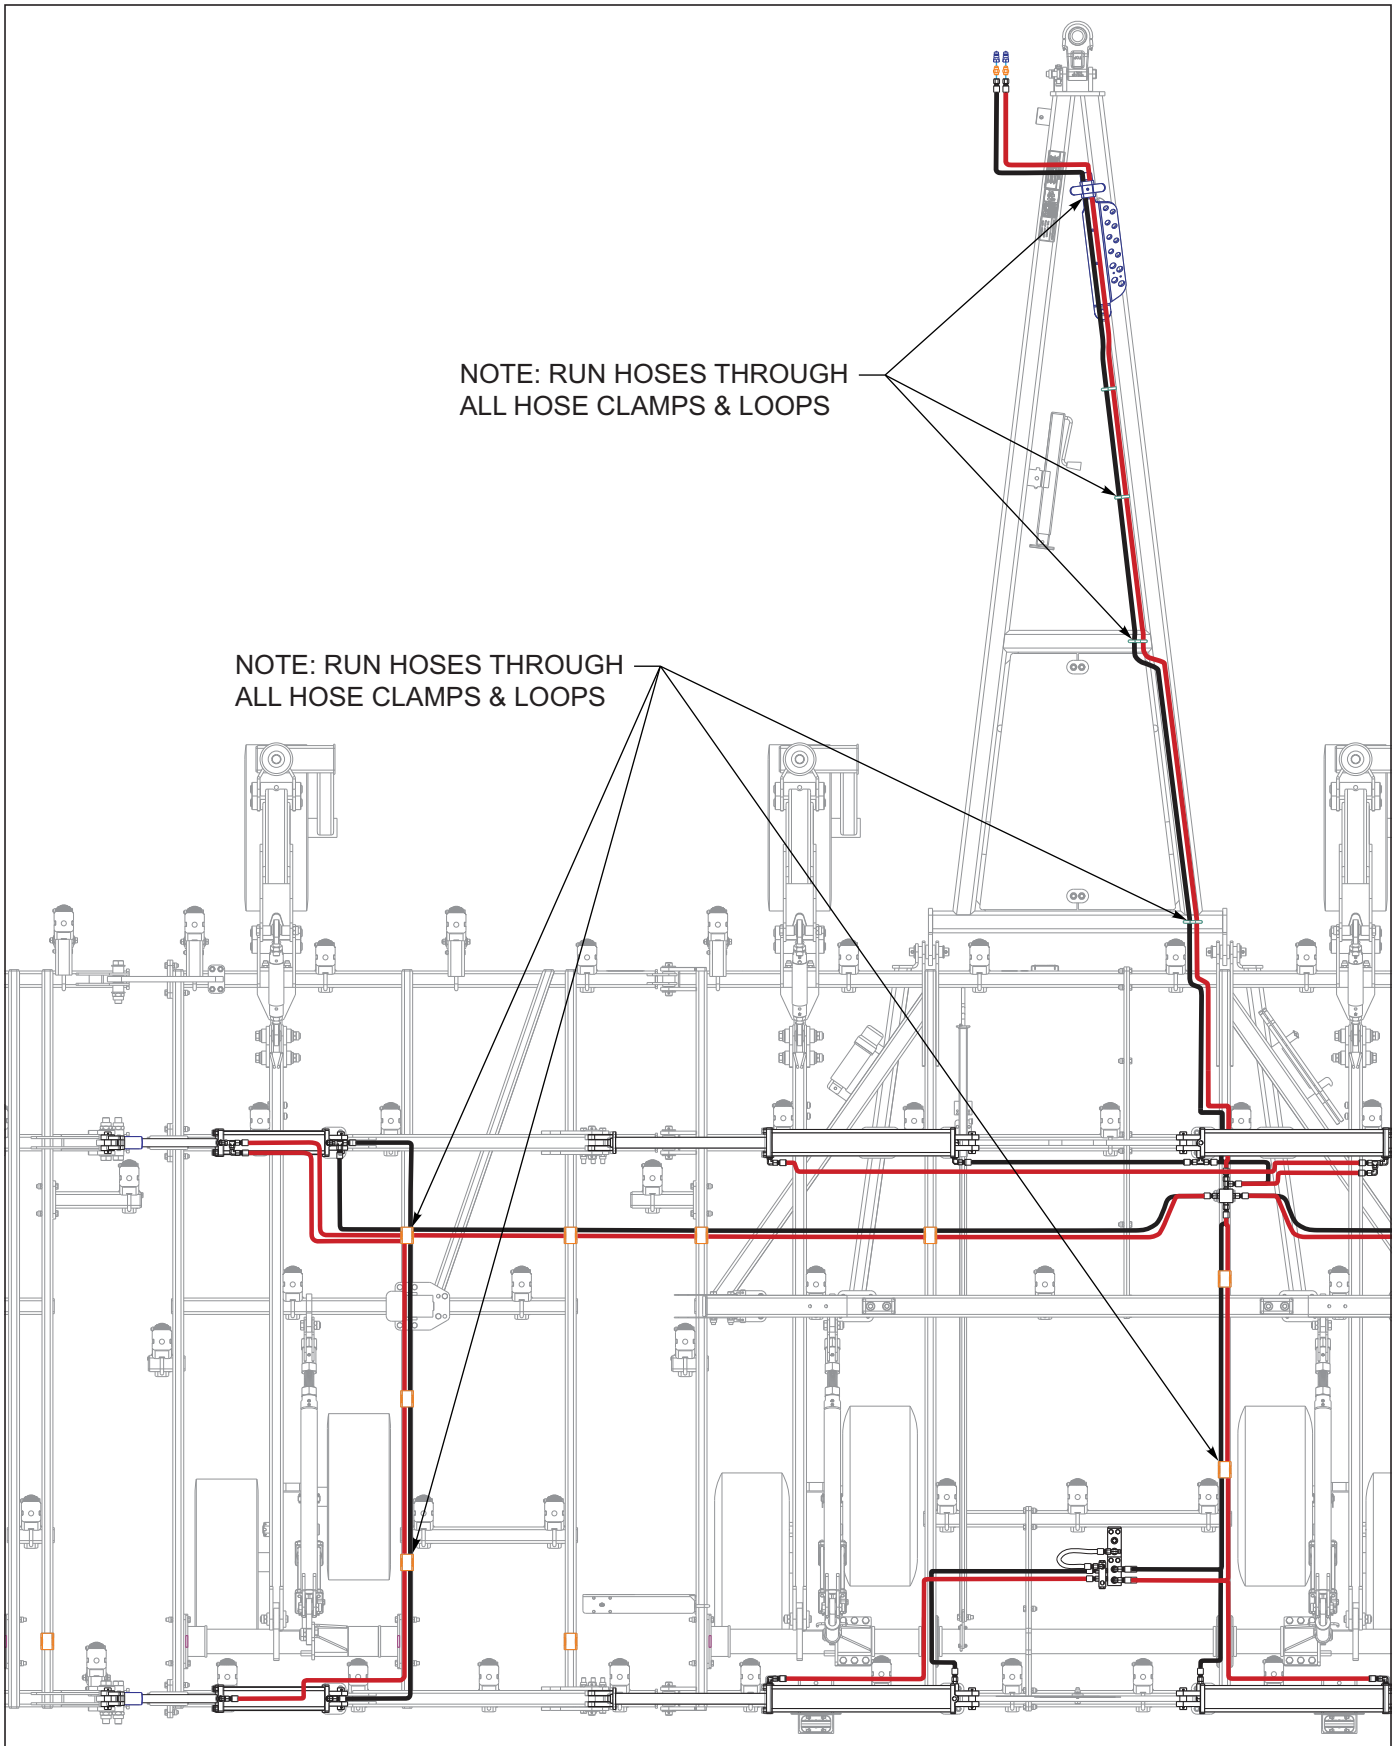
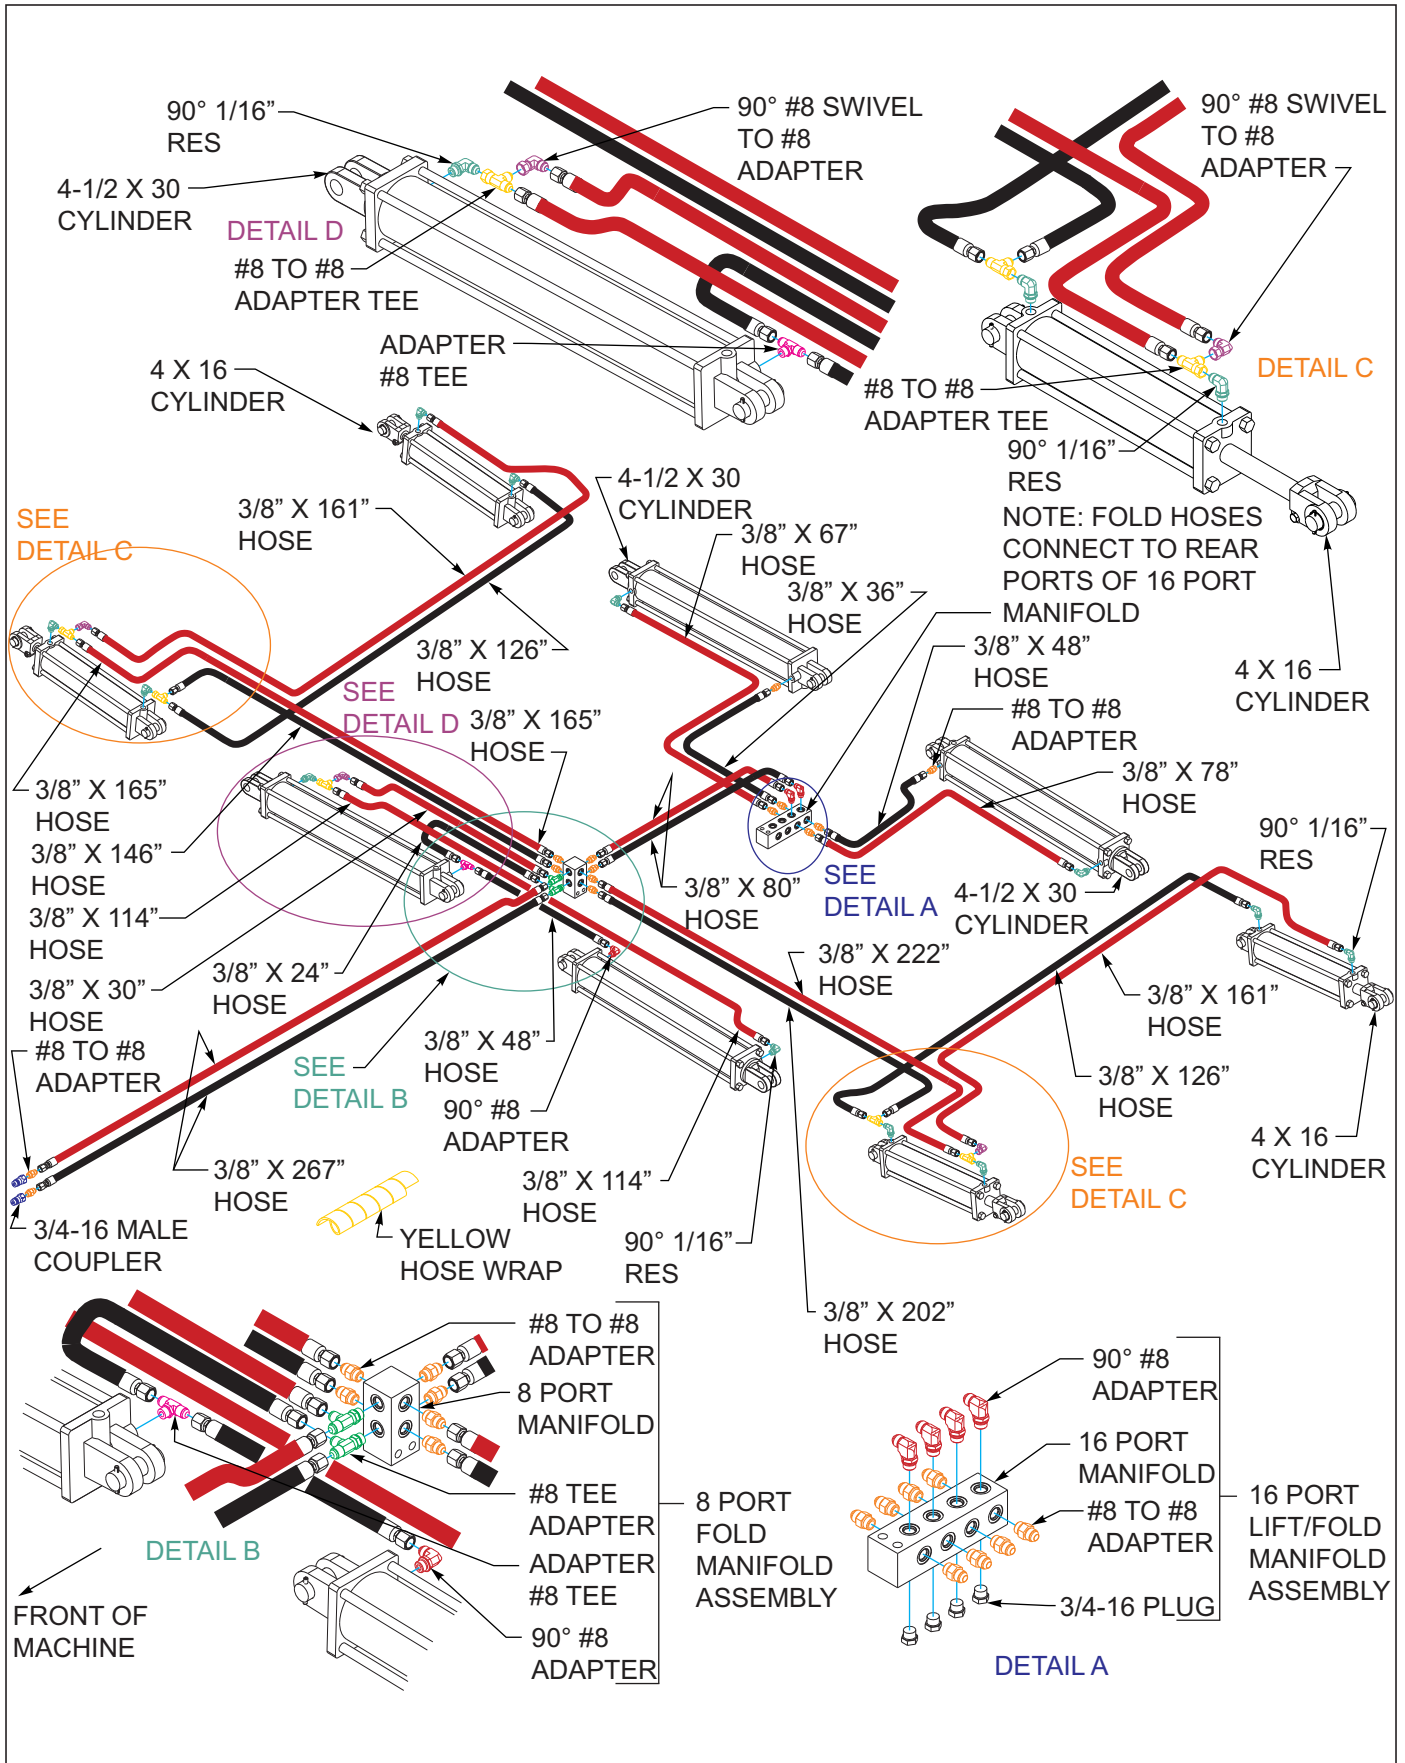

Figure 3-17: Hydraulic Fold Layout 9650FH-38' - 42' LH
Figure 3-22: Hydraulic Fold Installation 9650FH-46' - 50'
10. Install fold system hoses per **Figure 3-17 (9650-38 and 9650-42)** or **Figure 3-22 (9650-46 and 9650-50.)** Wrap fold system hoses with yellow hose wrap.